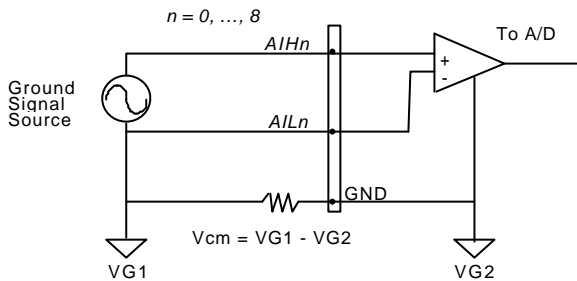

Figure 4.2 Grounded source and differential input
The differential input (DI) mode means the voltage signal to be measured is by a pair of signals, for example, AI3L and AI3H is a differential pair. The AD circuits measure the voltage difference between the differential pair. The common mode noise can be reduced under this mode. Note that the differential signal pair should be still common ground. Figure 4.2 shows the